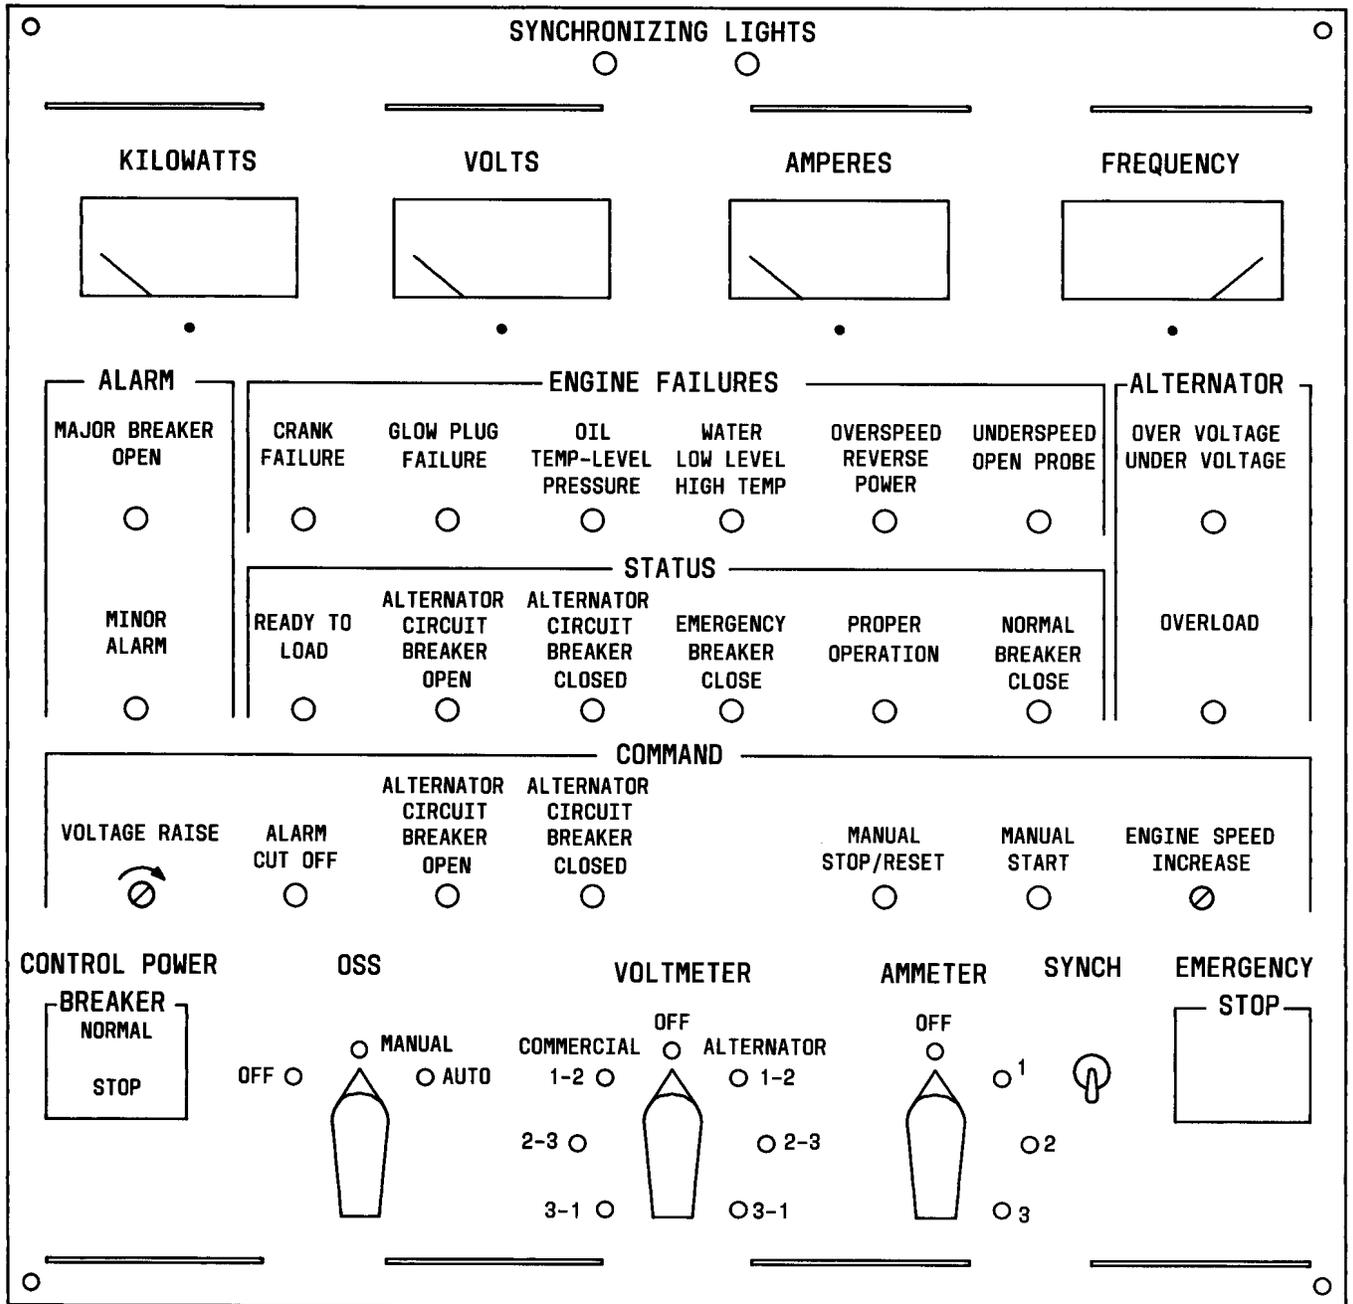

Fig. 5—Typical J86657 KS-22344, L103, 40 kW Control Panel
- (1) The alternator is ready to load
- (2) The emergency breaker is closed
- (3) The set is operating properly
- (4) The normal breaker is closed
- (5) Only on the List 103 of the 40-kW set (Fig. 5), the alternator circuit breaker is open
- (6) Only on the List 103 of the 40-kW set, the alternator circuit breaker is closed.